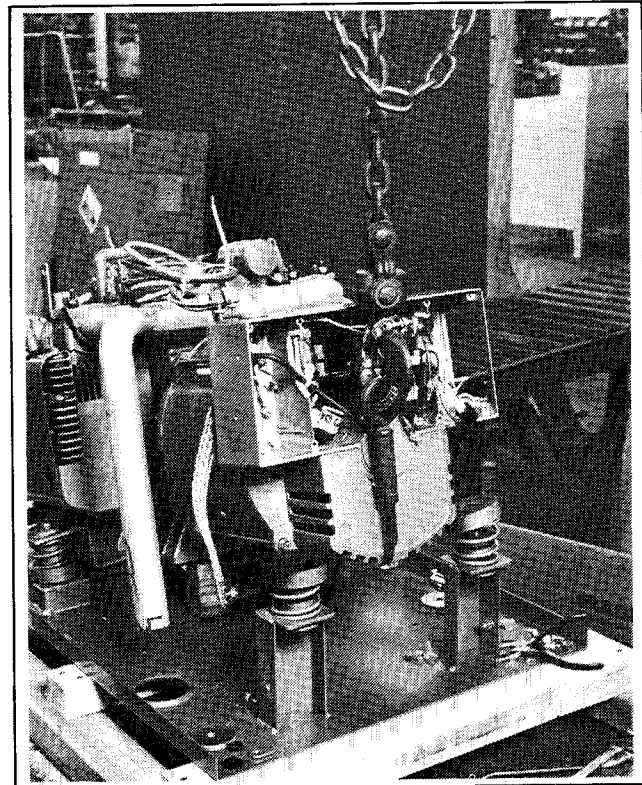

Figure 8-8. Hoisting Generator End
7. Place hoist hook into end bracket air vents and raise generator end, see Figure 8-8. Place a wood block